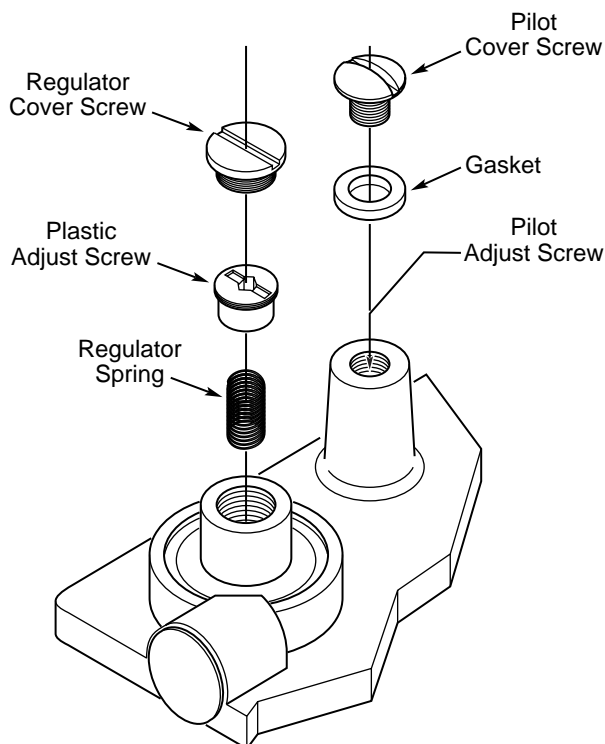

Figure 6
See **ADJUSTMENT** section (page 5) and fig. 6 for pilot set up.
2. Remove the pilot adjust cover screw and gasket to expose the adjusting screw (see fig. 6). Turn the adjusting screw **clockwise to reduce pilot flame**, or **counterclockwise to increase pilot flame**.
4. Remove regulator cover screw and turn regulator adjust screw **clockwise to increase pressure**, or **counterclockwise to decrease pressure** (see fig. 6). Always adjust regulator to provide the correct pressure according to the original equipment manufacturer's specifications listed on the appliance rating plate.